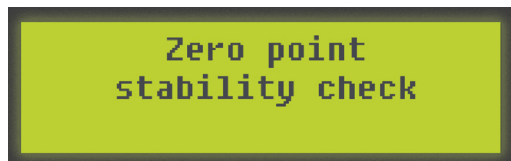

Fig.42
6. LCD display will read, Zero point stability check (Fig.42).